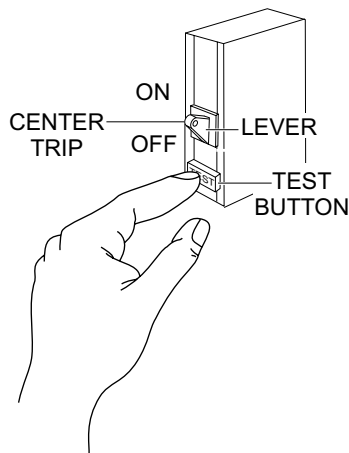

Figure 39. GFCI Breaker (Test)
4. Press the **test button** (Figure 39) on the AC circuit breaker and verify that the circuit breaker lever moves (*click*) from the **ON** position to the **center** trip position. This indicates that the GFCI breaker is working correctly and ground faults will be detected.